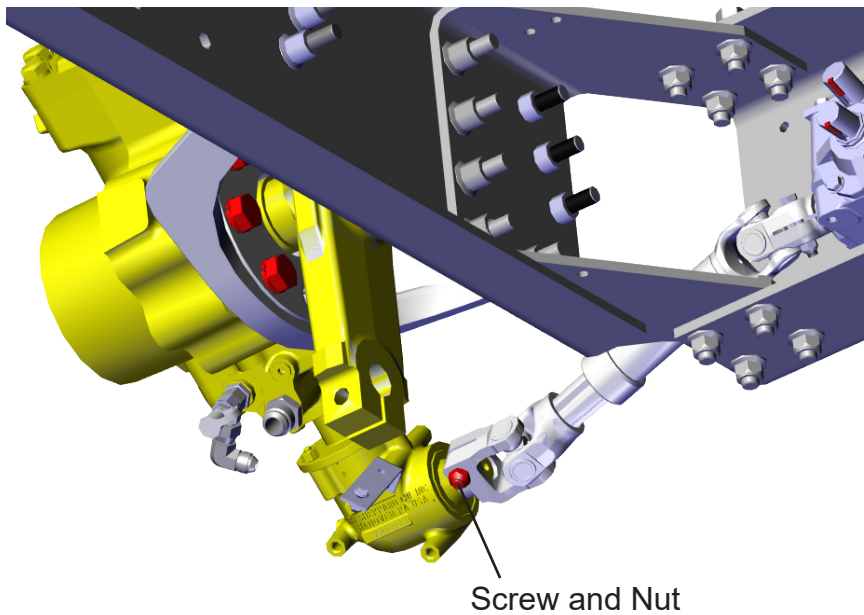

Figure 3
8. Loosen and remove screw and nut securing yoke to steering gear output shaft. See Figure 3.